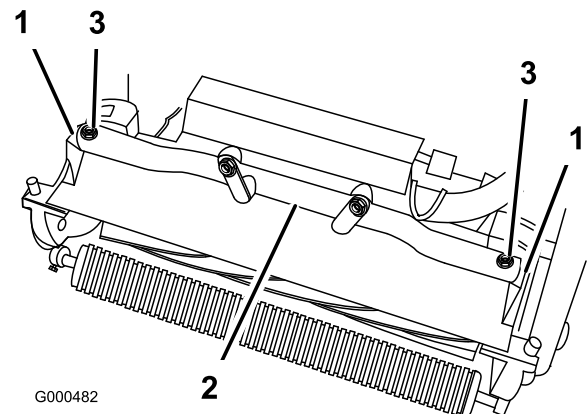

Figure 5
4. Rotate the traction unit frame (Figure 5) forward until it engages the cutting unit pivot arms.
5. Secure the traction unit frame to the cutting unit pivot arms with (2) M10 x 25mm bolts (Figure 5)